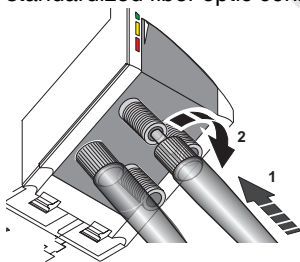

Figure 11 F-SMA connection
- The connectors are secured on the device by manually tightening the screw collar (see 2 in Figure 11).